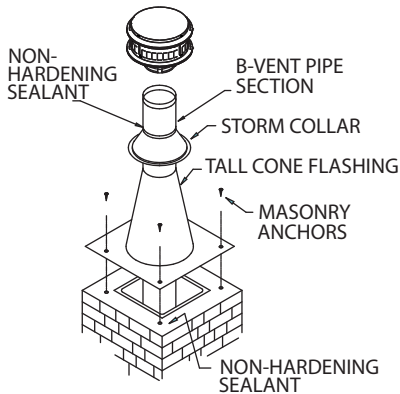

Figure 28
(d). **Flex Pipe Assembly.** Assemble first Rigid Pipe Section to the Flex Pipe, insuring that the "UP" arrows are in fact, pointing up. Push the sections together and twist to lock. Screws are not required, however if you desire to use them, use #8 sheet metal screws 1/4-inch long, being careful to not penetrate the inner liner. Repeat this process for the remainder of the Pipe Sections, and lower the assembly down the chimney. Lower it below it's normal position as shown in **Figure 28**.
**(g). Flashing.** Bend and trim the base of the Tall Cone Flashing so it fits onto the top of the masonry chimney. Use masonry anchors and non-hardening sealant to secure the flashing to the masonry (**Figure 28**).
**(i). Termination Cap.** Install the Termination Cap as shown in **Figure 28**. This concludes the procedures for installing a gas fireplace in an existing masonry fireplace. Conduct a final inspection of the system, and verify that you have complied with the manufacturer's installation instructions.
(f). **Flashing.** Bend and trim the base of the Tall Cone Flashing so it fits onto the top of the masonry chimney. Use masonry anchors and non-hardening sealant to secure the flashing to the masonry (**Figure 28**).